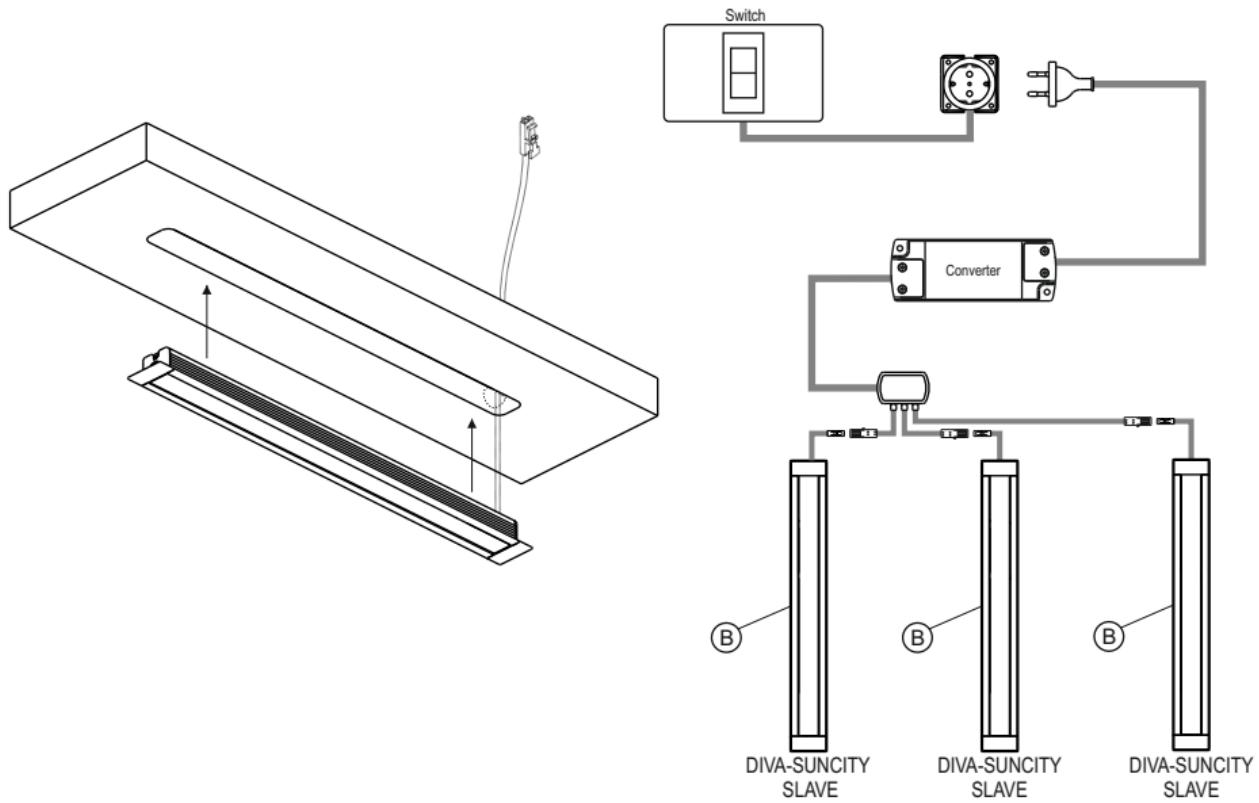

Fig.6
The **DIVA-SUNCITY SLAVE** (B) is a switch-free instrument, then it must be turned on via a remote switch, that can be placed on the **DIVA-SUNCITY TLDM-IFRM** (wired in the **MASTER** version) as shown in figure 4,5 or it can be assigned to a separate switch connected to the primary of the converter, or to a remote socket as shown in figure 6.